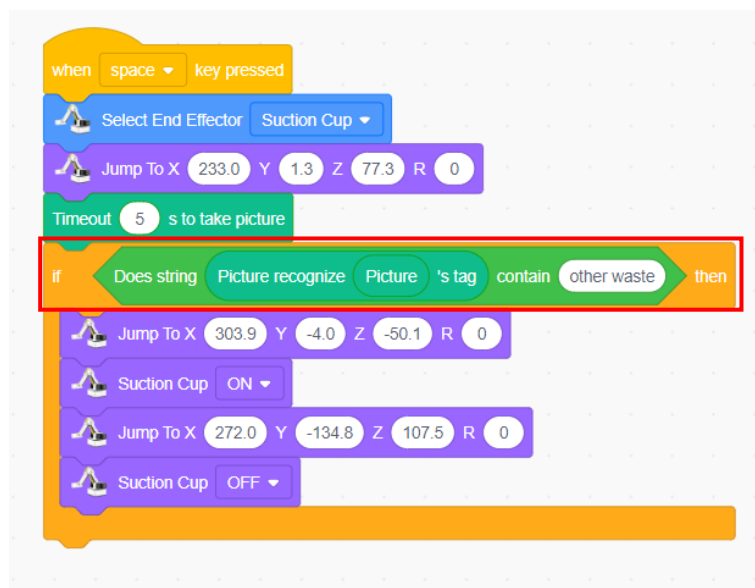

Figure 3.11 Setting the conditions for the robot to classify garbage
Step 5: Set the conditions for the robotic arm to classify the garbage, that is, to determine the image recognition result, as shown in Figure 3.11.